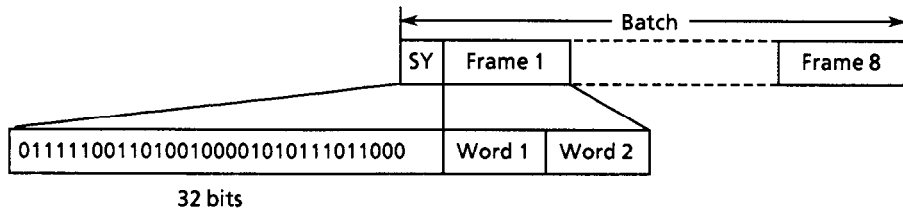

Figure 7 Batch configuration
Synchronization code (SY): 32-bit signal shown in Figure 7. When the SY is received after a preamble, the S-7040D considers them as a POCSAG code.
Detection of the initial SY following preamble is performed during initial SY detection mode. The S-7040D compares the received data with the SY data kept in the S-7040D (see Fig.7). Receiving one bit of data the S-7040D compares the 32-bit data including this bit and those 31 bits received before it with the defined SY. If 30 or more bits coincide, the SY is considered to be detected. Even if the radio wave is disturbed by noise, SY can be detected as long as the number of fault bits is less than 2.